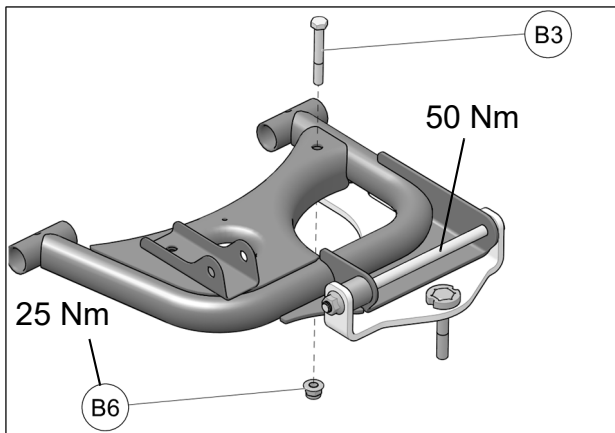

Fig. 9
8. Insert M8 bolt (B3) through existing hole at the back of a-arm and secure back of anchor bracket with M8 nut (B6). Tighten M8 bolt (B3) to 25 N•m [18 lbs-ft] of torque and M10 bolt (B7) to 50 N•m [37 lbs-ft] of torque. See Fig. 9